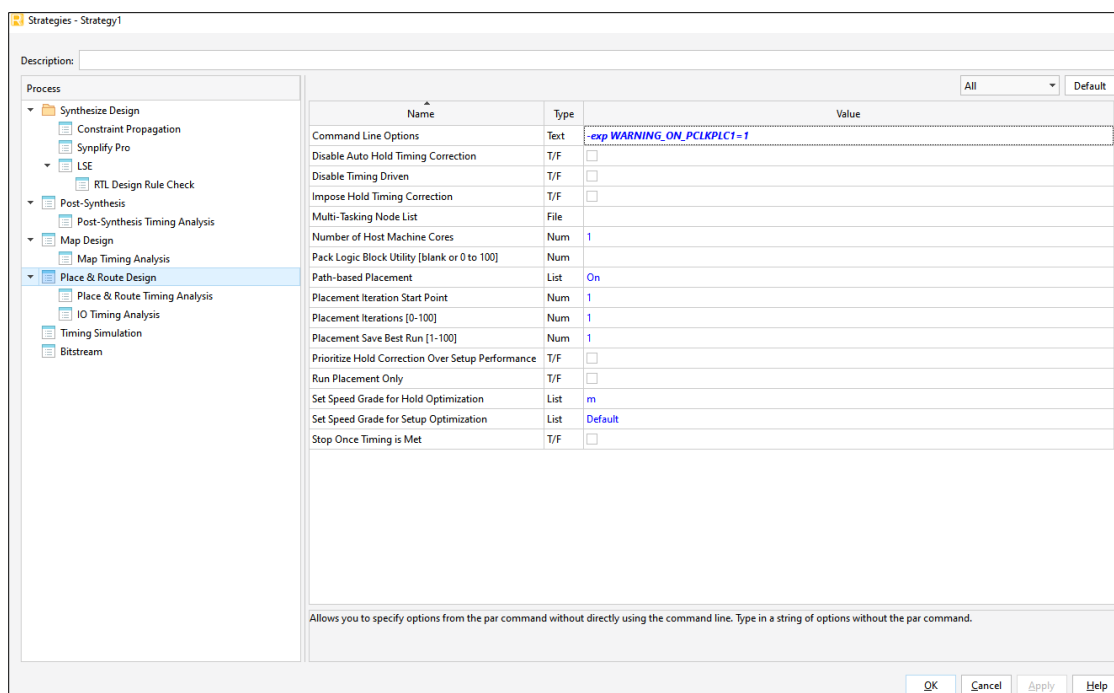

Figure 4.12. Add a Command Line in PAR Strategy
3. If you use the Standard mode and the JTAG_TCK_port is not assigned to a pclk pin, add command-line options in the **Place & Route Design** strategies to pass the Lattice Radiant software flow (Figure 4.12). An example command line is shown below: